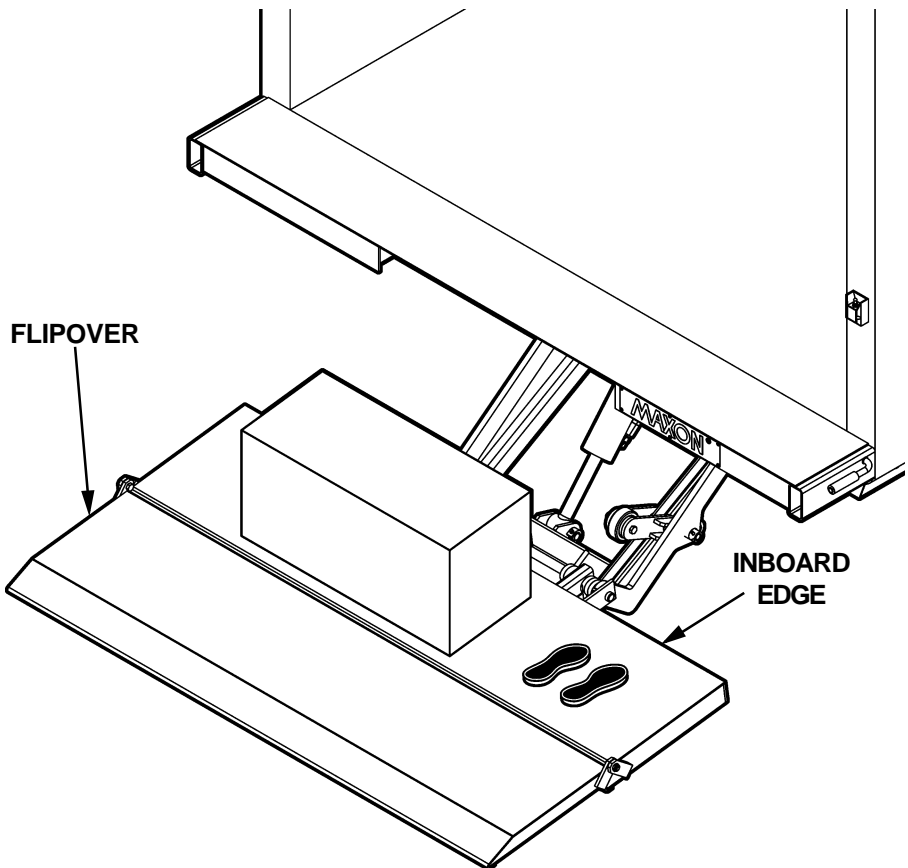

FIG. 7
7. Load the Platform as follows. Place all loads as close as possible to the inboard edge of the platform with heaviest part toward the truck body as shown in **FIG. 7**. If you need to stand on Platform with the load, stand in the footprint area shown and comply with the preceding **WARNING**.